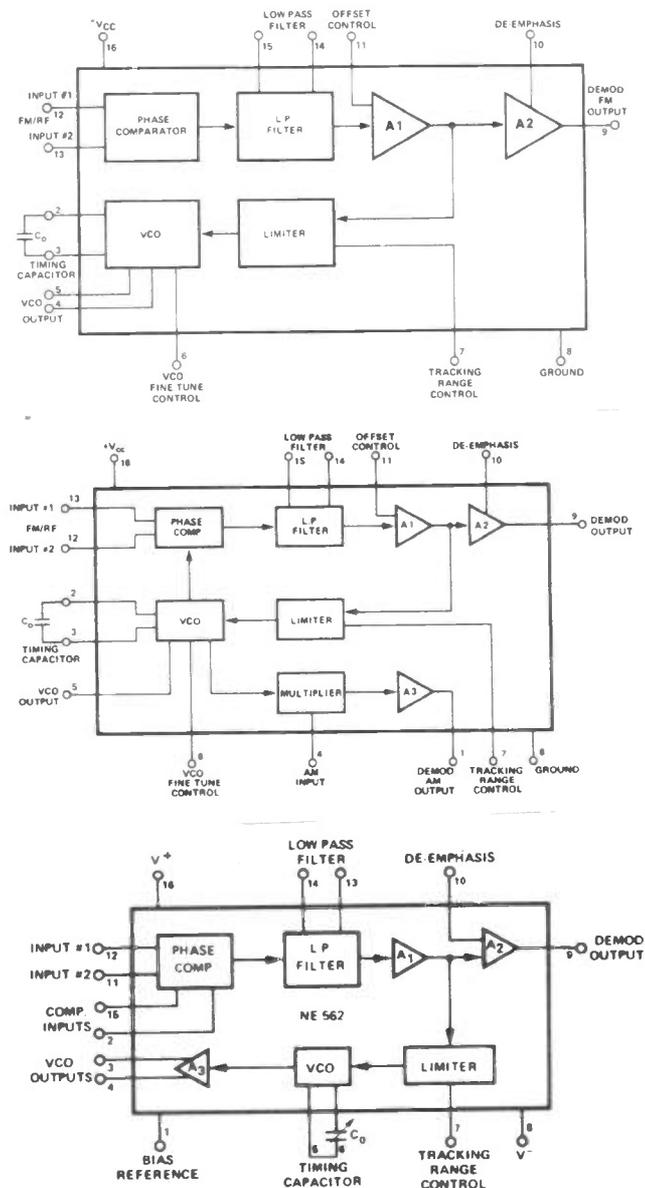

Figure 1: Block diagrams for a) the NE560; b) the NE561; and c) the NE562.
Before the Signetics Corporation was swallowed by Philips, it had established a reputation for innovation in monolithic linear technology with Phase Locked Loop (PLL) devices. The first generation of these devices included the NE560, 1 & 2 — 30MHz, 18V devices that incorporated an RC 'tuned' VCO, phase detector (PD) and loop filter stage. The NE561 also included an AM detector function, while the NE562 split the internal interconnects so that things like programmable 'N' counters could be inserted into the loop. The diagrams that make up Figure 1 illustrate the block functions of these three devices.